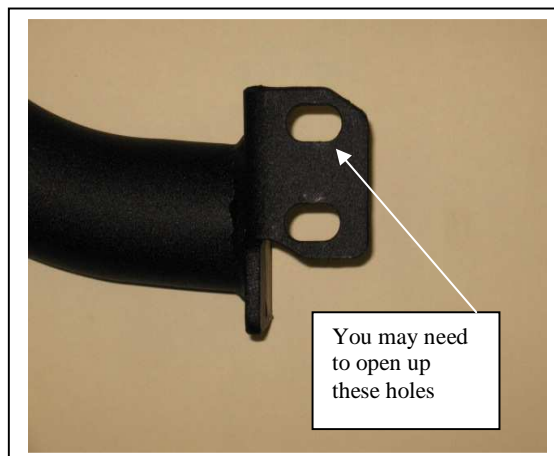

Fig 9
16. If re-using the factory rear bumper, due to the size of the bolts on the factory bumper you may be required to open up the slots on the rear lower uprights slightly. (Fig 9) You will need to remove the plastic end caps as well and you will not be able to re-mount them.